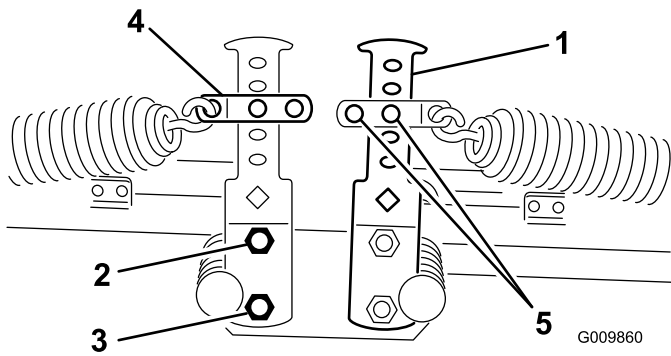
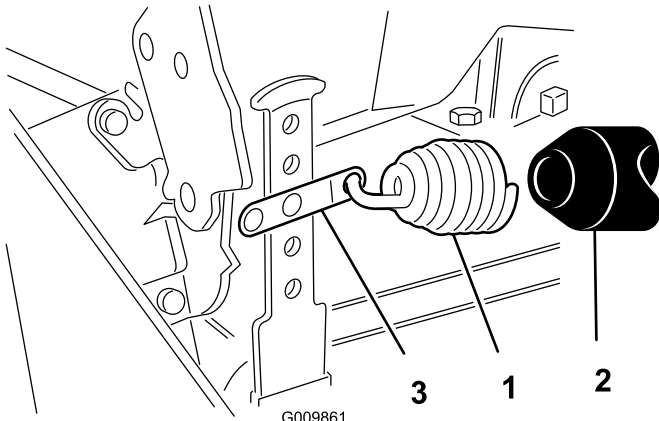

Figure 12
Figure 13
2. Secure the other end of the spring to the appropriate hole (see below) on the front and rear counterbalance arms (Figure 12 and Figure 13) with the spring shackle, clevis pin, and cotter pin.
4. Secure the bottom of the counterbalance arm to the frame with the bolt and nut previously removed. Tighten the top bolt (Figure 12).